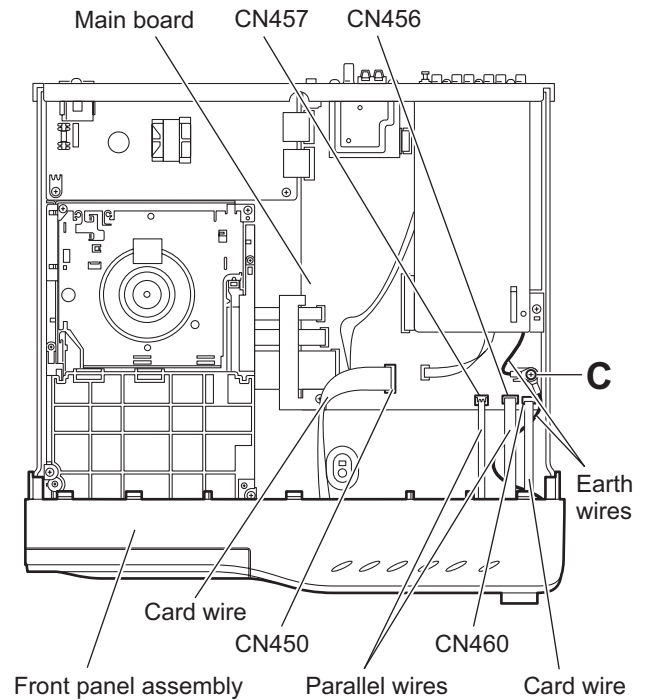

Fig.5
3.1.2 Removing the front panel assembly (See Figs. 5 and 6)
- (1) From the top side of the main body, disconnect the parallel wires from the connectors (CN456, CN457) on the main board. (See Fig. 5.)
- (2) Disconnect the card wires from the connectors (CN450, CN460) on the main board. (See Fig. 5.)
- (3) Remove the screw **C** attaching the earth wires to the main board. (See Fig. 5.)
When attaching the screw **C**, attach the earth wires with it. (See Fig. 5.)